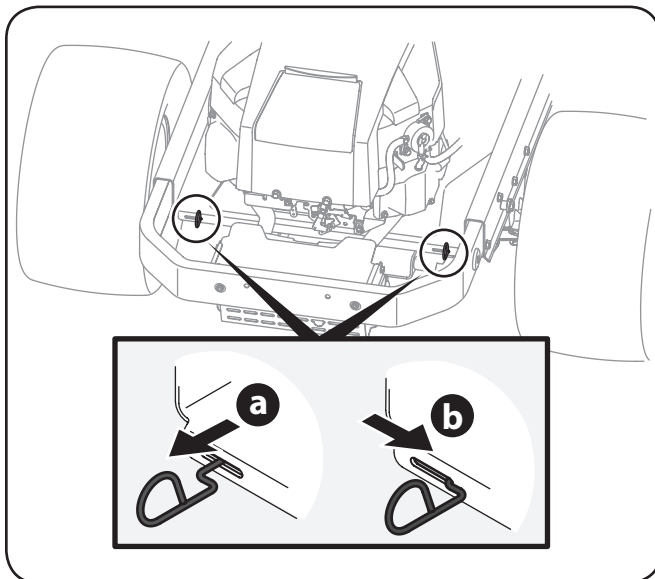

Figure 3-1
- Engage the transmission bypass rods, one on each side of the tractor, to move the tractor manually without starting it. The transmission bypass rods are located on the rear of the tractor, just inside each rear wheel. Engage the bypass rods by pulling each one out (a) and to the right (b) to lock it into place. See Figure 3-1.
- Disengage the bypass rods by reversing steps a & b after moving the tractor. See Figure 3-1.